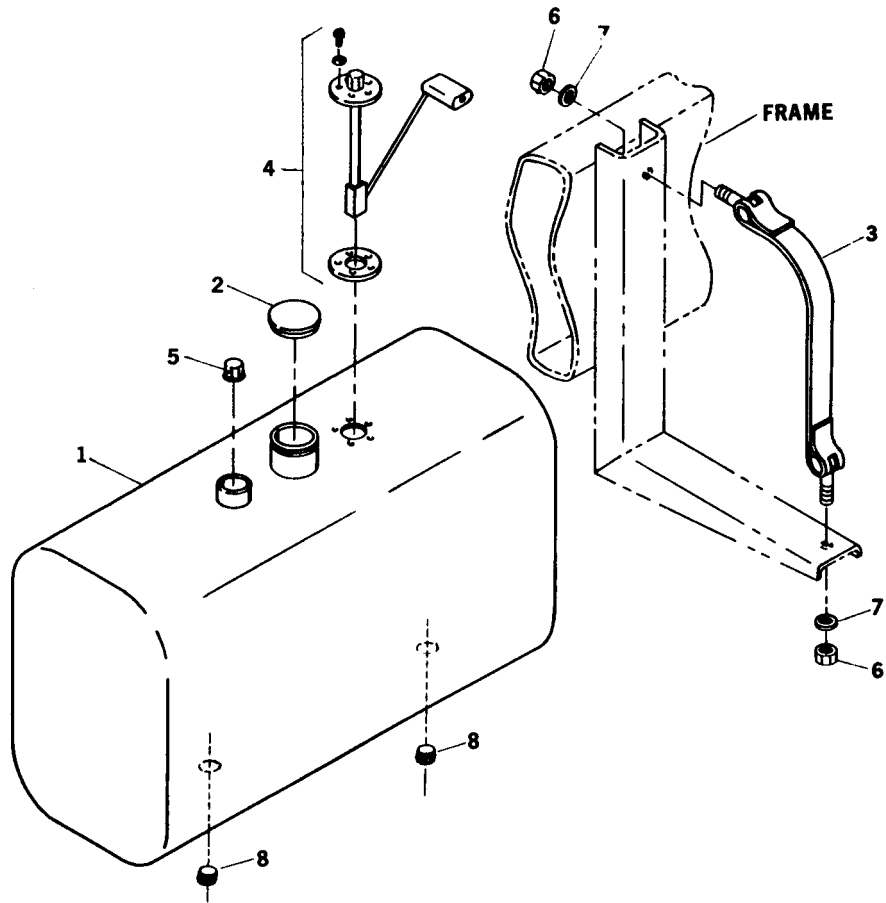

Figure 2-5. Fuel Tank Installation
b. Use suitable container(s) to drain fuel tank. Remove fuel cap (2, figure 2-5) and siphon out fuel. Remove pipe plug (8) and drain remaining fuel.
c. Tag and disconnect electrical lead to fuel level sender (4).
e. Remove fuel level sender (4) and fuel check valve (5).
f. Remove locknuts (6), washers (7), straps (3), and fuel tank (1).
- a. Secure fuel tank (1, figure 2-5) to frame with straps (3), washers (7), and locknuts (6).
- b. Install fuel level sender (4) and fuel check valve (5).
- d. Remove tags and install electrical leads at fuel level sender (4).
- e. Install pipe plugs (8) and fill fuel tank with diesel fuel. Install fuel cap (2).